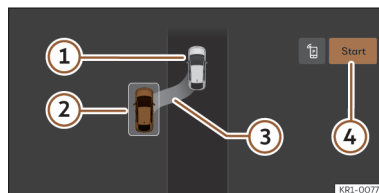
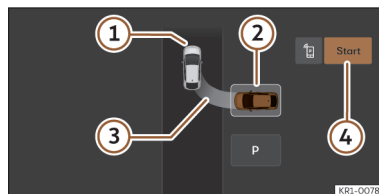

Fig. 160 On the infotainment system display: parallel parking position.
Fig. 161 On the infotainment system display: parking bay parking position.
>>> Fig. 160, >>> Fig. 161
- ① Your vehicle
- ② Parking space detected
- ③ Indication showing the proposed parking manoeuvre
- ④ Start parking manoeuvre
- Look at the display on the infotainment system's screen to see if the space has been detected as "appropriate" and if the correct position for parking has been reached >>> Fig. 160, >>> Fig. 161. Stop the vehicle and follow the instructions shown on the infotainment screen.
- Stop the vehicle, press the brake and, after a short pause, press the **Start** ④ button in the infotainment system.